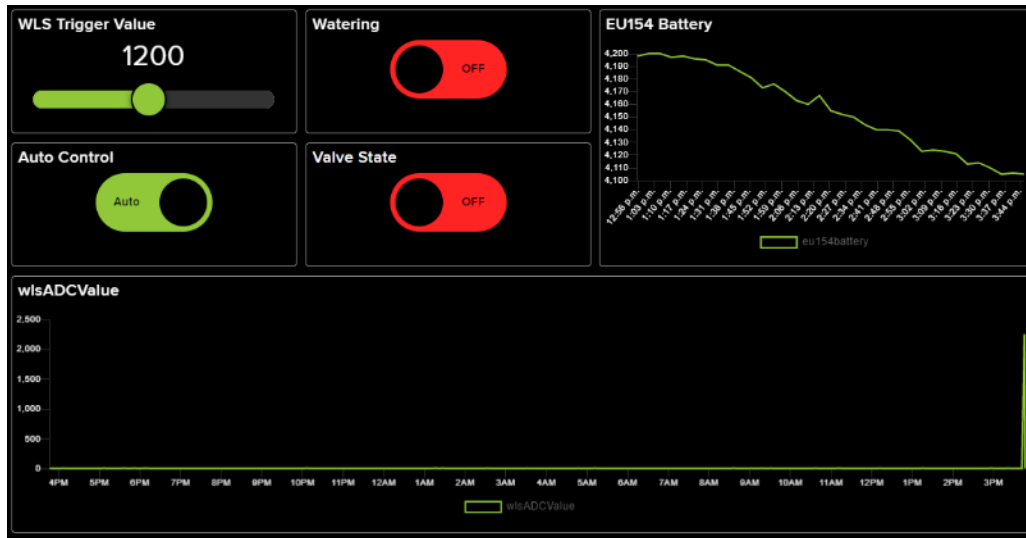

Figure 17. EU154-1 Control dashboard
5. You can also add graphs to display eu154battery and wlsADCValue feed (from EU153-1 Smart Water Sensor solution kit) as it shown in Figure 17: